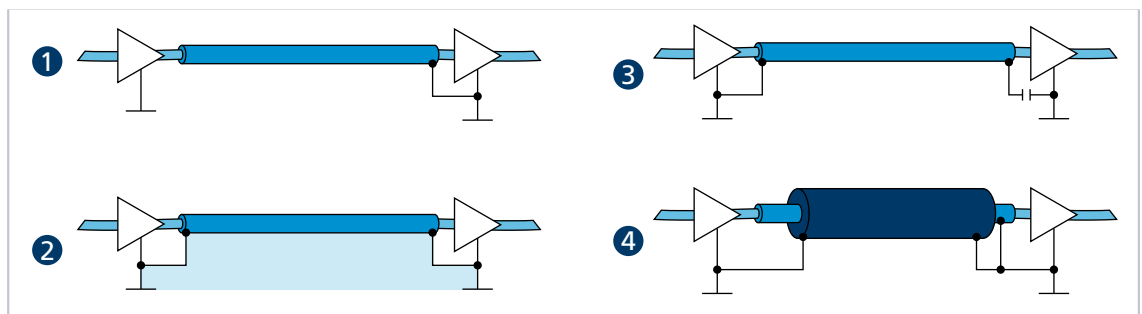

Fig. 13: Various possibilities for the shield connection
- ▶ Lay the motor phases in a shield, separate from the sensor or encoder signals, and connect on at least the motor side (see 1 or 2 in Fig. 13).
The sensor signals can optionally be laid with the motor phases in a shared cable/insulation hose using another outer braided shield. This outer braided shield must be connected at both ends (e.g., 4 in Fig. 13). A solution such as 2 in Fig. 13 is not functional in every case for this configuration. If this is not possible by means of a ground offset, establish the RF connection via specially suited capacitors (e.g., safety capacitors such as Y1/Y2/X1/X2, see 3 in Fig. 13). In this case, do not connect the shield multiple times except at the motor connection and controller side.